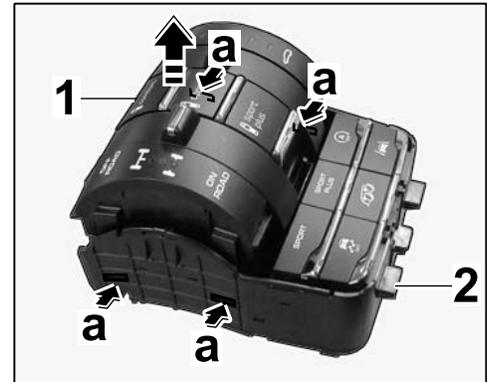

Figure 6
2.2 Release combined switch (⇒ *Figure 6 -a-*) and pull it out of the keypad (⇒ *Figure 6*).